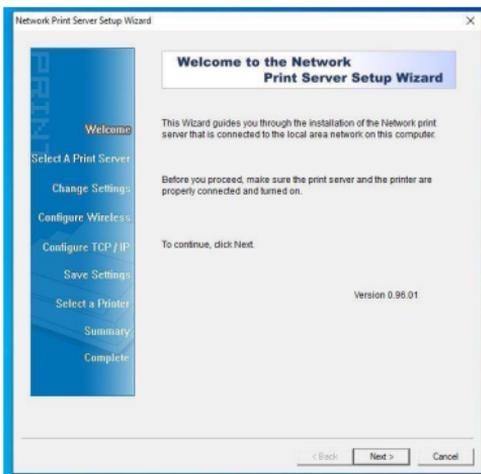

Figure 1
4. At the **Welcome** screen, select **Next** to begin the software installation. (Figure 1)